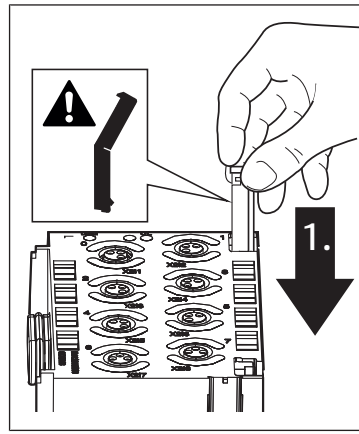
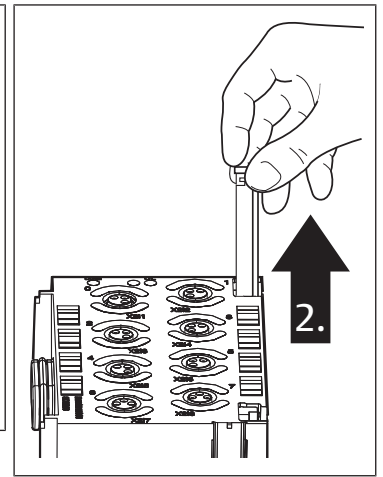

Fig. 8: Position the spring clamp element
Fig. 9: Pull the spring clamp element up to the stop
2. Place the previously removed modules on the mounting surface and slide them to the right onto the unit (see Fig. 8: Position the spring clamp element and Fig. 9: Pull the spring clamp element up to the stop). Ensure that the seals are inserted correctly.
- ▶ Place the supplied spring clamp elements on the I/O module and slide them into the slot until they engage (see Fig. 8: Position the spring clamp element). The spring clamp elements are secured in captive connections.
**INFO:** Always pull the spring clamp elements up to the stop before combining the modules (see Fig. 9: Pull the spring clamp element up to the stop).